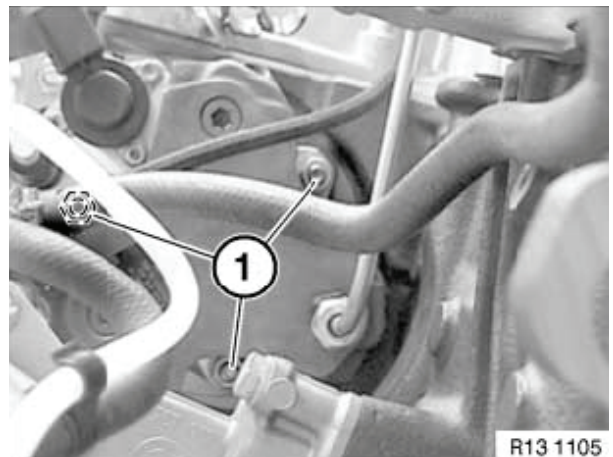

Figure 6-31
3. Install high-pressure fuel pump and install three nuts (**Figure 6-31, (1)**).